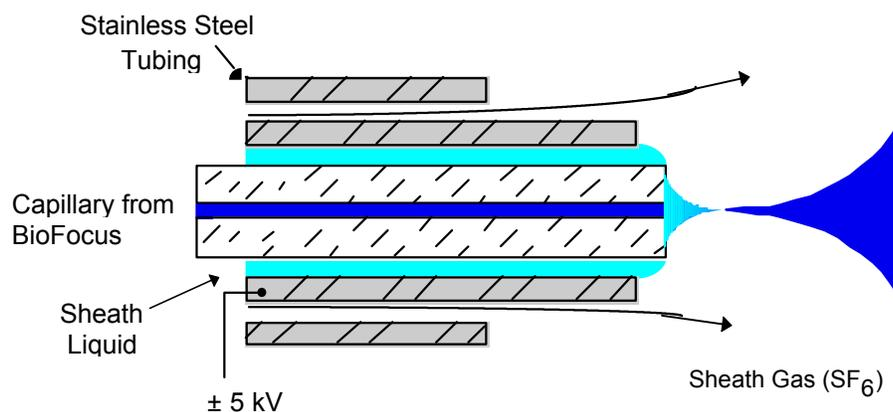

Figure 1. Sheath Flow and Sheath Gas Surround Capillary.
The BioFocus performs electrophoretic separations normally, as described in the BioFocus System Instruction Manual. This interface provides a means to extend the capillary out of the BioFocus and into the electrospray interface of the mass spectrometer (MS). Inside the electrospray interface, the capillary end is surrounded by a sheath "make-up" flow as shown in Figure 1. The electrolyte in the sheath liquid completes the electrophoresis circuit. Optionally, a sheath gas can be used to reduce the formation of a corona discharge.